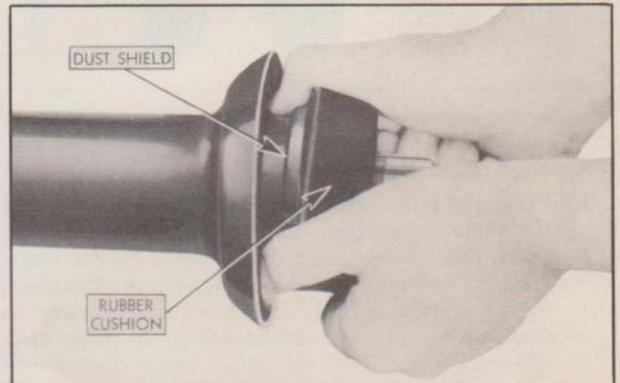

Fig. 33—Removing or Replacing Bearing Rubber Cushion
10. After the support bracket has been removed, the rubber cushion can be removed from the bearing with the hands as shown in Fig. 33.
- Install the rubber cushion over the bearing as shown in Fig. 33.